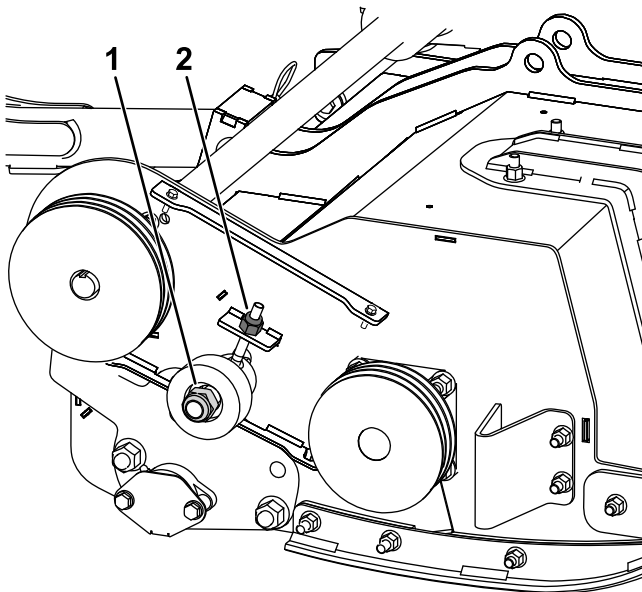

Figure 27
3. Loosen, but do not remove, the idler pulley nut (Figure 27).
4. Adjust the nut on the idler pulley post to tension the belt (Figure 27).